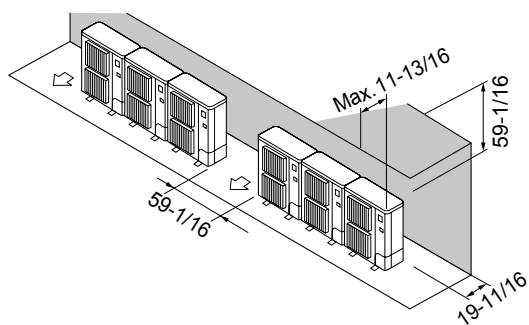

Fig. 2-13
- ② Obstacles at rear and above only (Fig. 2-13)